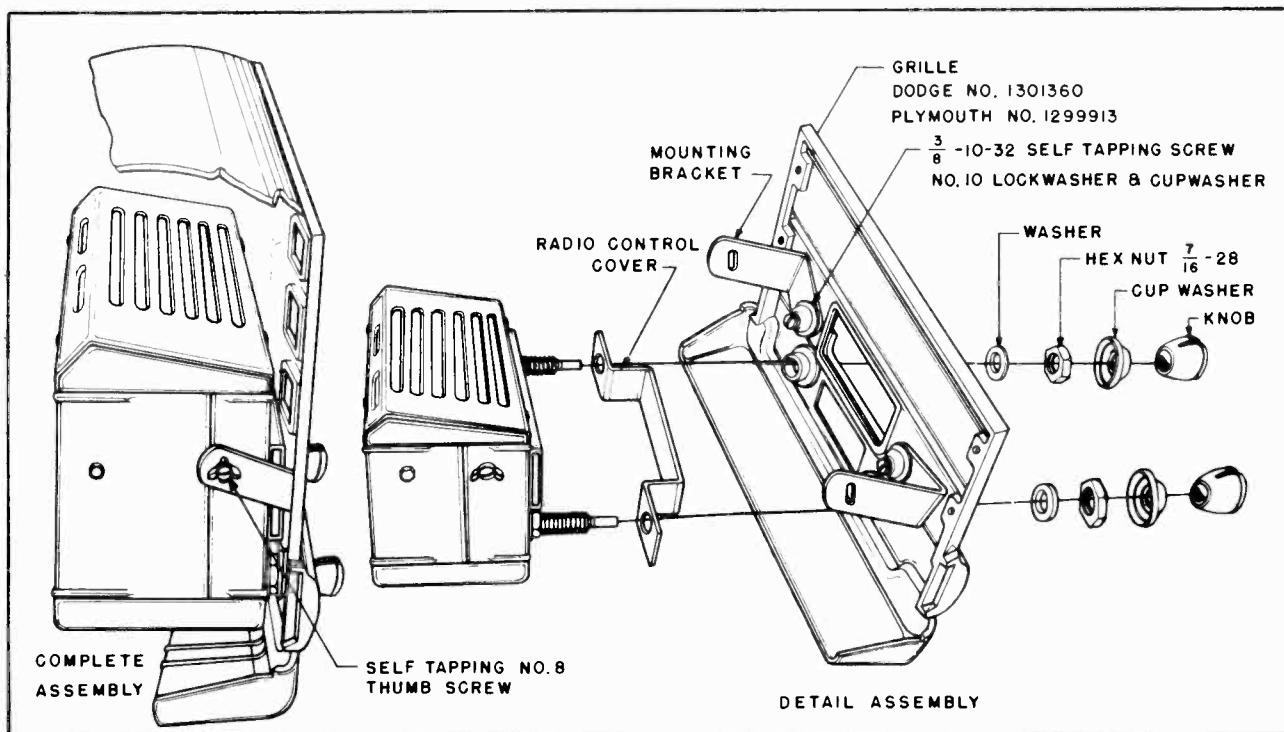

FIG. 1 RECEIVER MOUNTING DIAGRAM
4. Secure two mounting brackets to Radio Grille with  $\frac{3}{8}$  inch long 10-32 self-tapping screws, lockwashers, and cup washers as shown in detail assembly, Fig. 1.
The following mounting hardware parts are shipped attached to the receiver. (See detail assembly drawing Fig. 1)